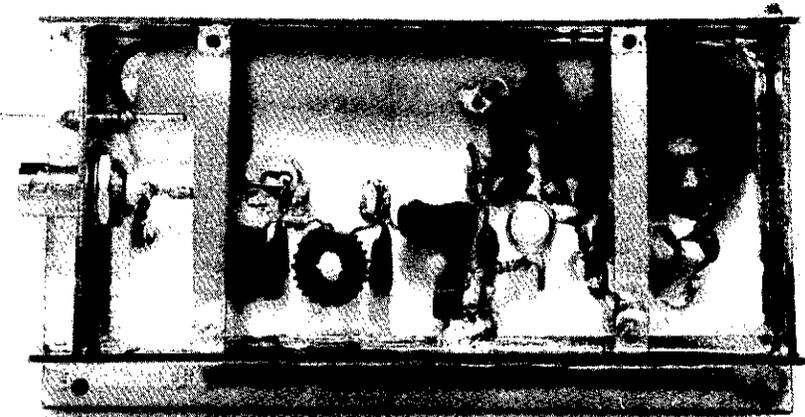

Fig 13—Zack Lau holds covers on PC-board boxes using tapped cross strips.
*Idea 1:* Use thin strips of board with tapped screw holes to hold box covers in place (Fig 13). Although tapped glass-epoxy board is not as strong as plated steel hardware, it can hold screws securely. I've never stripped the threads in any of my projects. (If I did, I'd just retap the stripped hole[s] with a larger tap size.) You can easily move strips to accommodate misplaced holes; for *really* misplaced holes, make new strips.